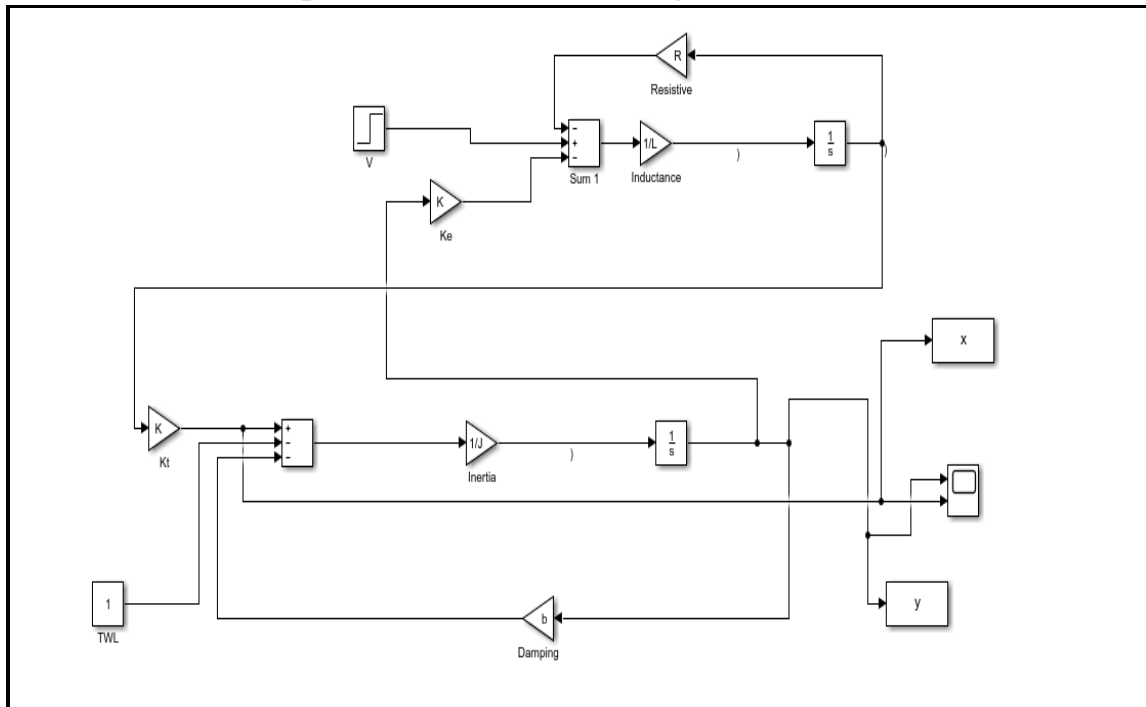

Figure 6: The Armature controller DC motor when working load component added to represent the torque at the DC motor .
Table 1: The Values of Speed and Current of Armature Controller DC motor shown in the Figure 6 at Different value of Torque. ....	20
Table 2: The Value of Speed and Current of DC motor shown in the Figure 6 when the Value of resistance =2 ohm and Different Value of Torque. ....	21
Table 3: The Value of Speed and Current of DC motor shown in the Figure 6 when the Value of resistance =4 <math>\Omega</math> and Different Value of Torque. ....	22
Table 4: The Value of Speed and Current of DC motor shown in the Figure 6 when the Value of resistance =6 <math>\Omega</math> and Different Value of Torque. ....	23
Table 5: The Value of Speed and Current of DC motor shown in the Figure 6 when the Value of resistance =8 <math>\Omega</math> and Different Value of Torque. ....	24
Table 6: The Values of Speed of DC motor shown in Figure 6 when the input Voltage =50 and Armature resistance =0.5 ohm.....	25
Table 7: The Values of Speed of DC motor shown in Figure 6 when the input Voltage =100 and Armature resistance =0.5 ohm.....	26
Table 8: The Values of Speed of DC motor shown in Figure 6 when the input Voltage =150 and Armature resistance =0.5 ohm.....	26
Table 9: The Values of Speed of DC motor shown in Figure 6 when the input Voltage =180 and Armature resistance =0.5 ohm.....	27
Table 10: The Values of Speed of DC motor shown in Figure 6 when the input Voltage =220 and Armature resistance =0.5 ohm.....	27
- The Working load was added to the System, which is represent the torque at DC motor, the new plot of it shown in the Figure 6.
The Working load was added to the Armature Controller DC motor as shown in the Figure 6.
The Torque apply to the Armature Controller DC motor shown in Figure 6 were changes as the follow [0.2 0.4 0.6 0.8 1.0 1.2], the Speed and Current of DC motor were found, the results are shown in the Figure 20,21 respectively, the value of Speed and Current were found and it recorded in Table 1 and the Torque load Curve plotted, all these results recorded in results part.
The Armature resistance of DC motor shown in Figure 6 were changes as the follow [2 4 6 8], for each value of resistance the Step 1 above were repeated.
- ✓ The plot of Speed and Current when the Armature resistance of DC motor shown in Figure 6 set to 2  $\Omega$ , shown in the Figure 23, 24 respectively, and the value of speed and current recorded in Table 2 in results part.
- ✓ The plot of Speed and Current when the Armature resistance of DC motor shown in Figure 6 set to  $4\ \Omega$ , shown in the Figure 25, 26 respectively, and the value of speed and current recorded in Table 3 in results part.
- ✓ The plot of Speed and Current when the Armature resistance of DC motor shown in Figure 6 set to  $6\ \Omega$ , shown in the Figure 27, 28 respectively, and the value of speed and current recorded in Table 4 in results part.
- ✓ The plot of Speed and Current when the Armature resistance of DC motor shown in Figure 6 set to  $8\ \Omega$ , shown in the Figure 29, 30 respectively, and the value of speed and current recorded in Table 5 in results part.
- **Step 3: Effect of Input Voltage:** The Value of Armature resistance of DC motor shown in the Figure 6 was set to  $0.5\ \Omega$  and the input voltage were changed as the follow [50 100 150 180 220], for each value of voltage the speed of DC motor were take and the results tabulated.
- ✓ The plot of speed of DC motor shown in the Figure 6 when the input Voltage set to 50Volt shown in the Figure 32, and the value of the speed recorded in Table 6 in Results part.
- ✓ The plot of speed of DC motor shown in the Figure 6 when the input Voltage set to 100Volt shown in the Figure 33, and the value of the speed recorded in Table 7 in Results part.
- ✓ The plot of speed of DC motor shown in the Figure 6 when the input Voltage set to 150Volt shown in the Figure 34, and the value of the speed recorded in Table 8 in Results part.
- ✓ The plot of speed of DC motor shown in the Figure 6 when the input Voltage set to 180Volt shown in the Figure 35, and the value of the speed recorded in Table 9 in Results part.
- ✓ The plot of speed of DC motor shown in the Figure 6 when the input Voltage set to 220Volt shown in the Figure 36, and the value of the speed recorded in Table 10 in Results part.
- **Step 4: Effect of the moment of inertia (J):**
The Code 1 in Appendix A.2 used to Extracted the DC motor shown in the Figure 6 to MATLAB, the results show in the in results part.